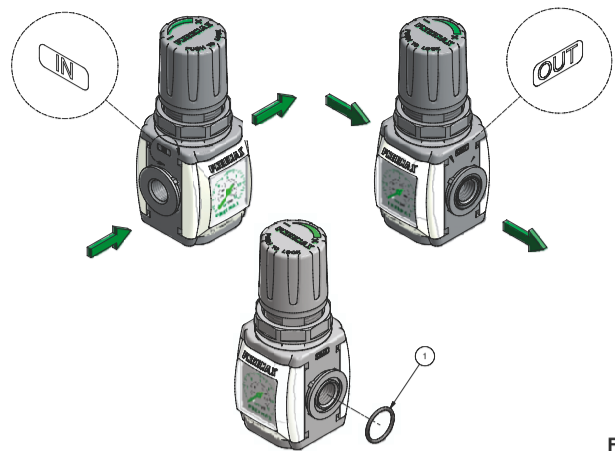

Fig. 1
- Ensure that the flow direction indicated on the unit is followed (fig. 1).
- To mount two or more units together use the appropriate flange. Open the top part of the flange, position the parts close together and close the flange. Before closing the flange, check that the OUT O ring "1" is correctly positioned (fig. 1 & 2).